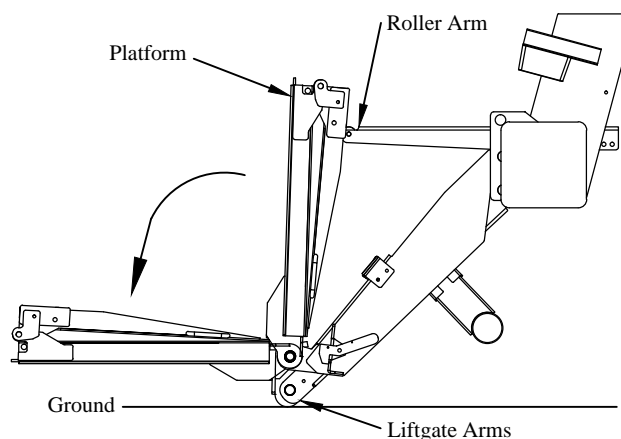

Figure 4: Step 8.
- Step 8. With the liftgate arms touching the ground, stand off to the side, and unfold the platform (Figure 4).